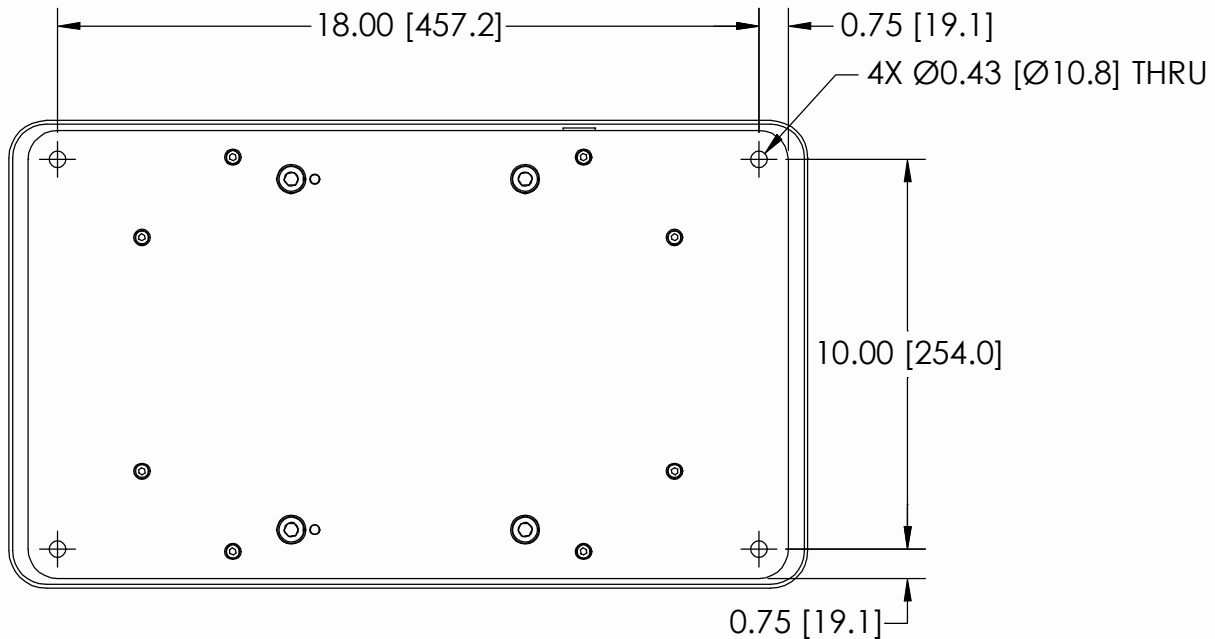

Figure 3. AFD90-3 Mounting Bracket hole locations
The AFD90-3 is designed for mounting on a stationary fixture. It has four (4) &0.41” (&10.5 mm) mounting holes spaced as shown in Figure 3. The AFD90-3 Table Top Mounting Bracket should not be modified without first consulting PushCorp, Inc. The surface that the Mounting Bracket is mounted to must be flat to avoid distorting the base.